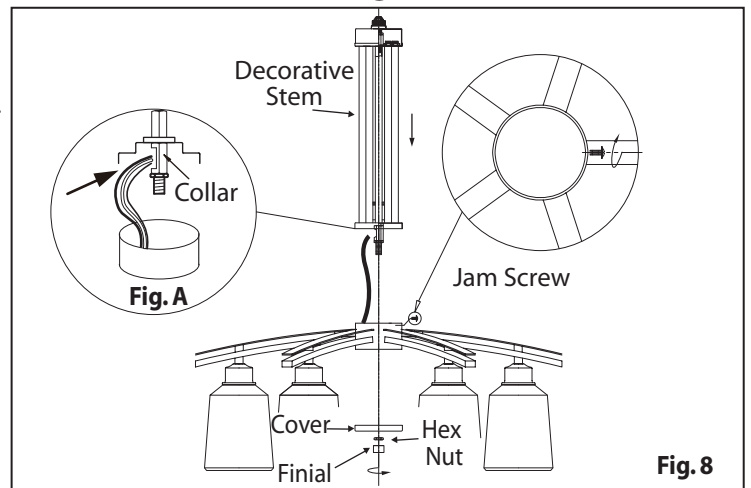

Fig. 8
9. Remove the wire and ground wire from decorative stem. Flip over light fixture. Route the wires and ground wire through decorative stem. Go to step 1 of the section "For up light installation" for further installation. (Fig. 8)